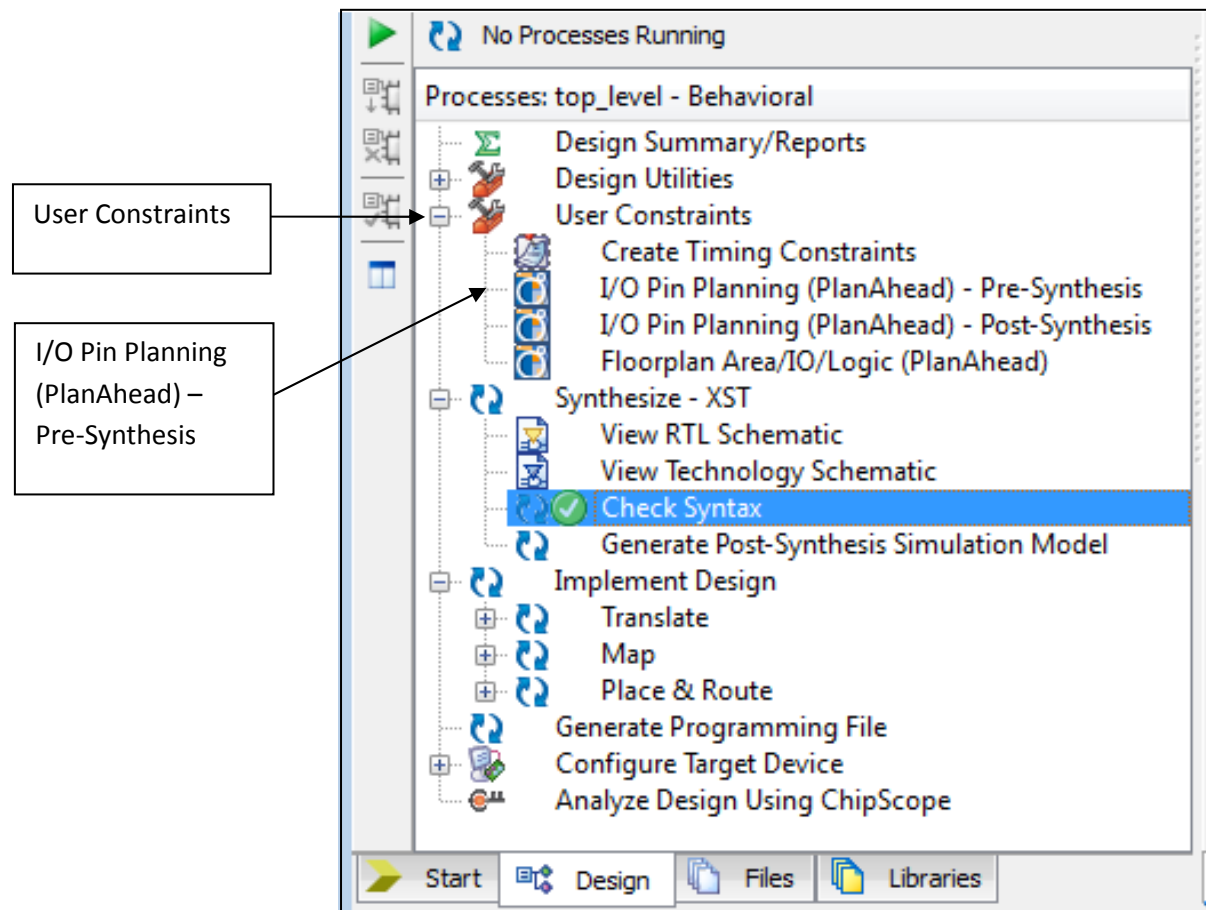

Figure 3.16: Portion of Project Navigator screen, with User Constraints expanded.
1. As shown in Figure 3.16, if it has not already expanded, click on the '+' next to **User Constraints**. This will expand out to show various items, including **I/O Pin Planning (PlanAhead) – Pre-Synthesis**.